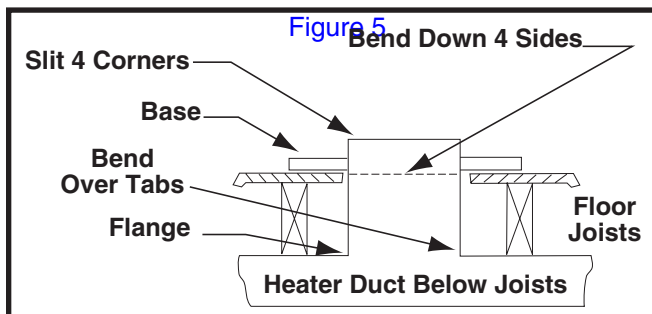

Figure 5. Transition Duct
5. Drop transition duct upside down through the floor opening and center the top of the feeder duct in 14-1/8" x 14-1/8" floor opening as shown in Figure 5 \(page 9\). Using the feeder duct as a guide, mark and cut a 12" x 12" opening in the supply duct.
- Set the universal base in place. Drop transition duct upside down through the floor opening and center the top of the feeder duct in 14-1/8" x 14-1/8" floor opening. See Figure 5 \(page 9\).